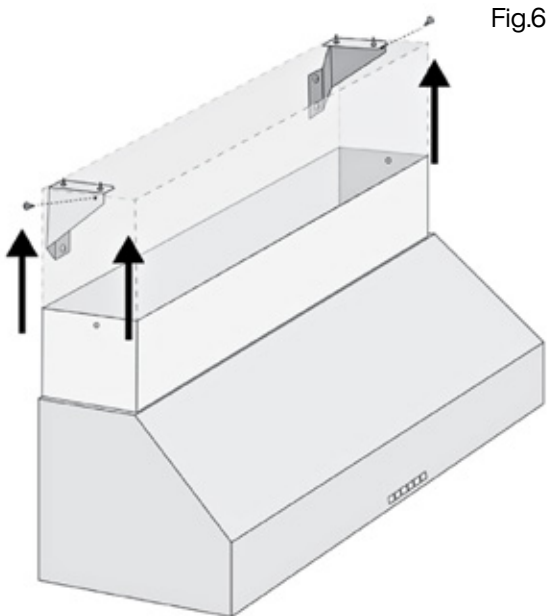

Fig.6
11. Telescope the flue cover up into position in line with the brackets and secure in place with supplied 10mm screws (Fig.6).